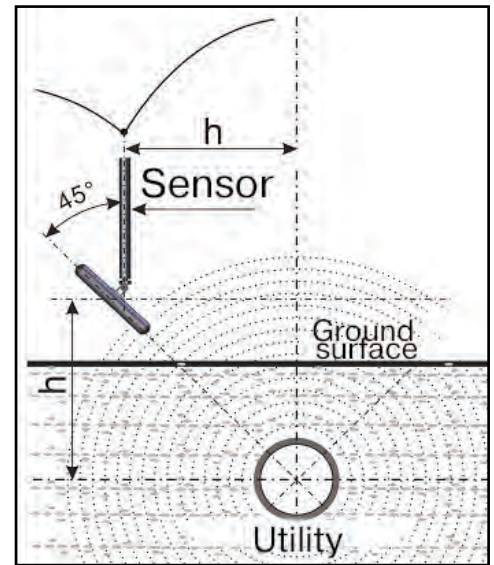

Fig.6.1
2. Fix the sensor antenna at a 45° angle to the ground surface, minimum of the signal is observed at a distance from the point «above the route», equal to the depth of the utilities, when the antenna axis intersects the axis of the route. This is the indirect method of measuring the depth of utility (**fig. 6.1**)